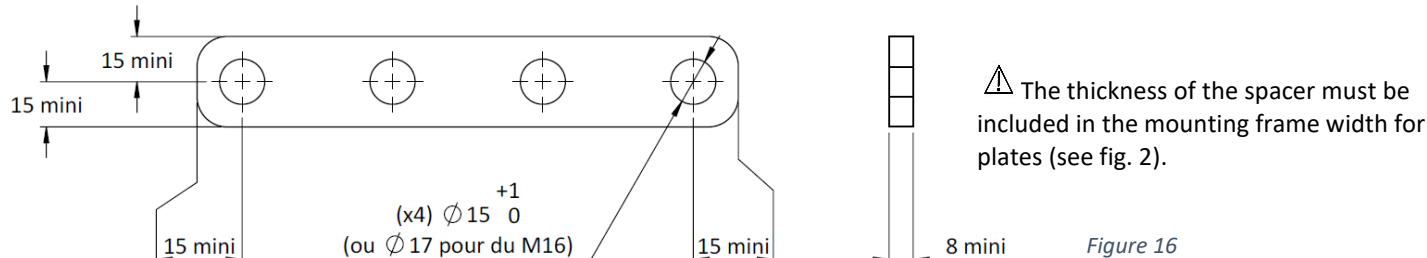

Figure 16
** It is possible to avoid creating the 2 x $\varnothing 26$ holes in each side rail. See figure 16.